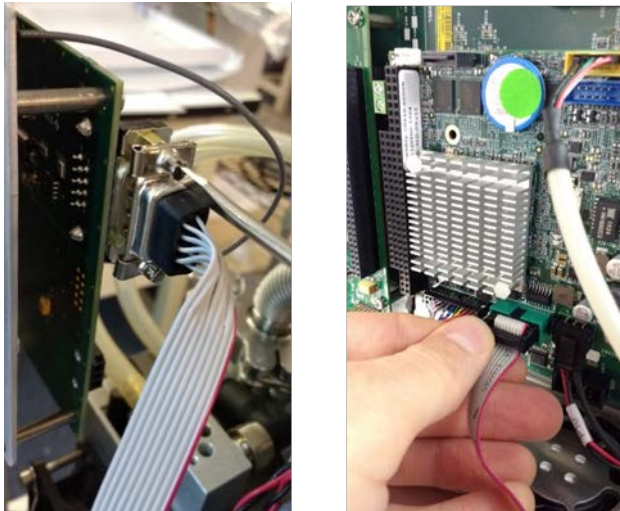

Figure 7 RS232 Connection
- 9 Connect the RS-232 on the wireless board using its two slotted screws (Figure 7: RS232 Connection, left side). Plug in the other side of the ribbon cable to the green port on the CPU board, located on the front side of the leak detector, away from the antenna's printed circuit board (Figure 7: RS232 Connection, right side).